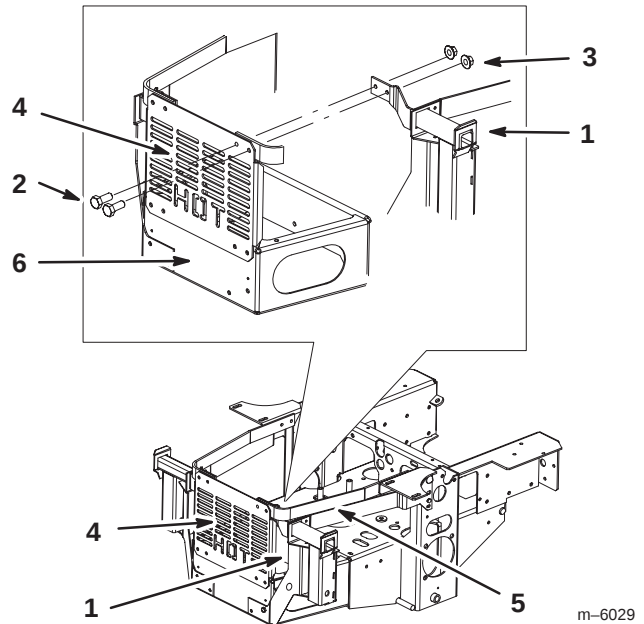

**Figure 13**
5. Install the bagger mounting bracket to the bottom rear bumper with 2 bolts (5/16 x 3/4 in.), 4 flat washers (5/16 in.), and 2 flange nuts (5/16 in.) (Fig. 13).
1. Tighten the bagger mounting bracket to the rear bumper (Fig. 13). See torque table.